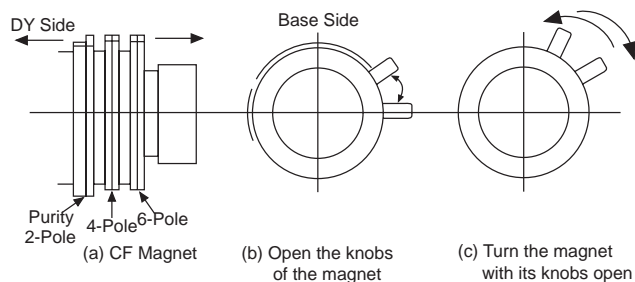
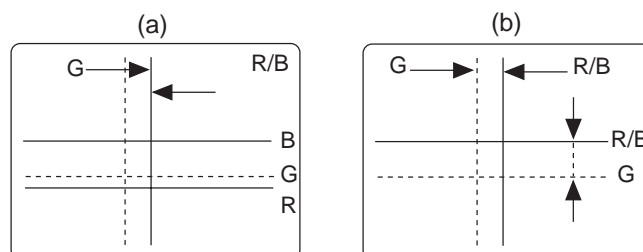

FIGURE 1-4-1
FIGURE 1-4-2
- (2) Open the knobs of 4-pole magnet (2 sheets) (Figure 1-4-1(b)) and match the blue/red vertical lines at the center of the screen as shown in Figure 1-4-2(a).
(3) Turn the 4-pole magnet with its knobs open (Figure 1-4-1(c)) and match the blue/red horizontal lines as shown in Figure 1-4-2(b).